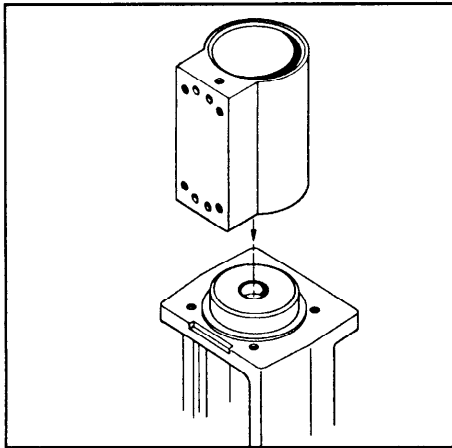
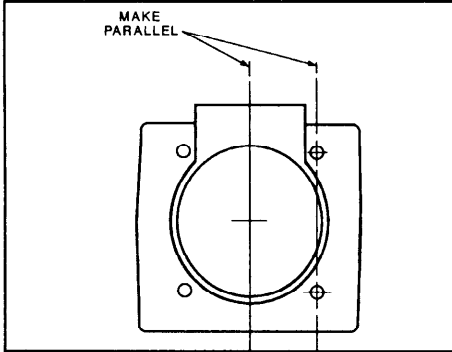

Figure 7.3
Figure 7.4
15. Place the cylinder on the pump mount with the mating face for the air valve positioned as shown in Figure 7.3. The cylinder should be aligned as shown in Figure 7.4.